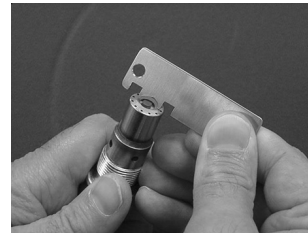

Figure 2. Acceptable center electrode discoloration
**NOTE:** Discoloration of center electrode at firing end is normal and does not affect operation. See Figure 2 for example of acceptable discoloration.